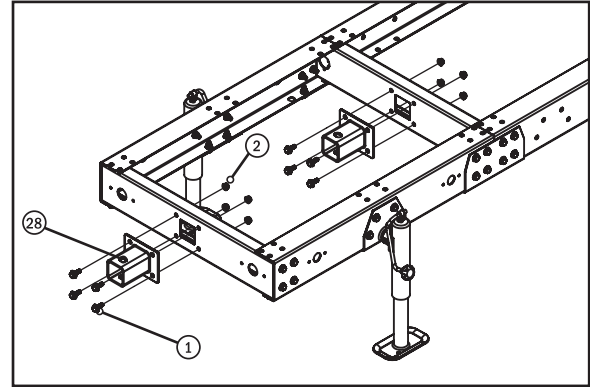

Fig. 16
Step 21: Assemble the Tow Bar Stanchions to the Trailer. On the longer end of the trailer, and on the End Crossbar (#3), place one of the Tow Bar Stanchions (#28) onto the crossbar and secure in place using four M10 x 30mm Bolts (#1) and Nuts (#2). On the Mid Crossbar (#4) directly behind the End Crossbar, install the second Tow Bar Stanchion as shown (Fig. 16), using four M10 x 30 mm Bolts (#1) and Nuts (#2). Torque the fasteners between 32 and 35 ft-lbs (43 to 48 N-m).